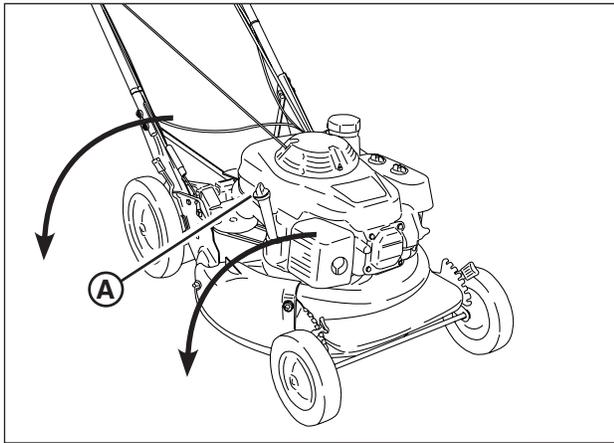

Figure 14: Draining the engine oil
2. Remove the dipstick (**A, Figure 14**), then turn the mower on its side. Allow the oil to drain from the oil fill tube into an appropriate container. Dispose of used oil properly.